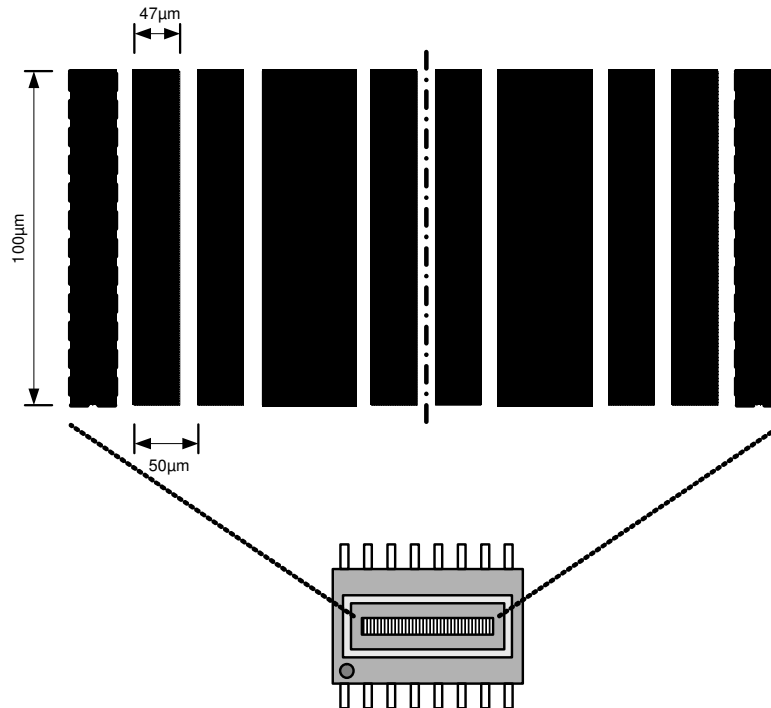

Figure 1: Pixel geometry
The sensor consists of a linear array of 1+142+1 photodiodes. The pixel geometry is shown in Figure 1. Each individual pixel measures 100µm (H) by 47µm (W) with a 50µm pixel-to-pitch. There are 142 active pixels which can be used to measure the light intensity. One extra pixel, each with a special functionality, is added to both ends of the linear array.